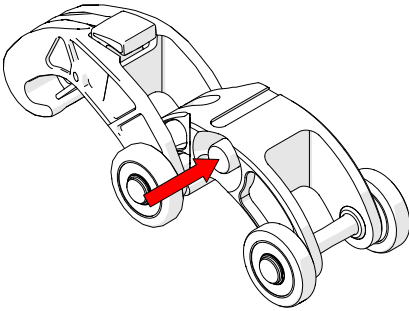

Fig. 43 - Press red button
1. Press the button on the side of the Dovetail QuickLink (Fig. 43).